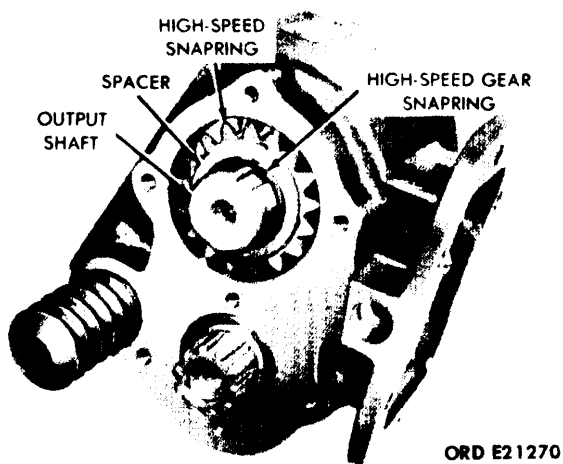

Figure 5-10. Removal of Output Shaft High Speed Gear Snapping and Spacer.
spacer. (See fig. 5-10.)
- e. Output shaft and high-speed gear. (See fig. 5-10 and 5-11.)